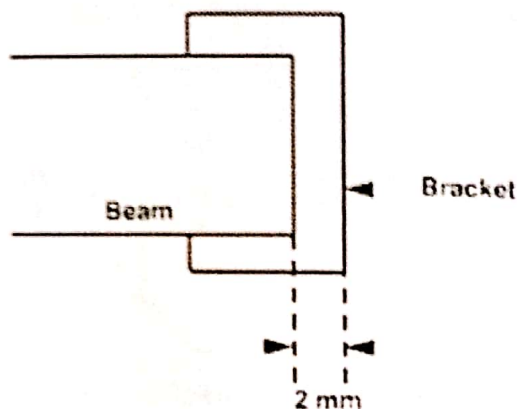

Figure 6.2 Setting between the beam and the beam bracket
2. The distance between the beam brackets and the beam should be 2 mm so as to have smooth rotation of the beam between the brackets. See Figure 6.2.